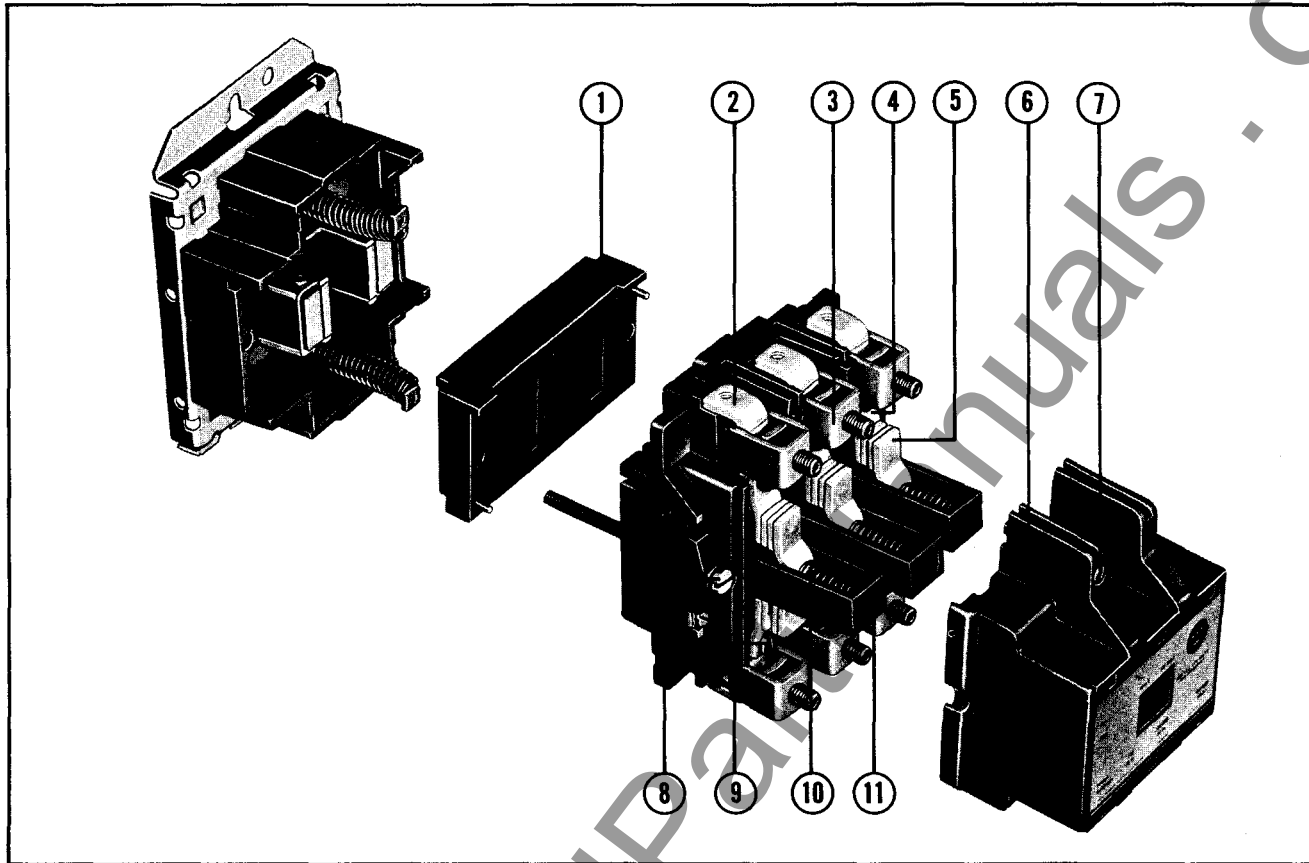

Figure 5 - Contactor Assembly
Loosen the two arc box assembly screws (7) located immediately above and below the nameplate, see Figure 5, and remove arc box (6). Contacts are visible.
Loosen the assembly screws (8) Figure 5 located to the immediate left and right of the arc box (6).